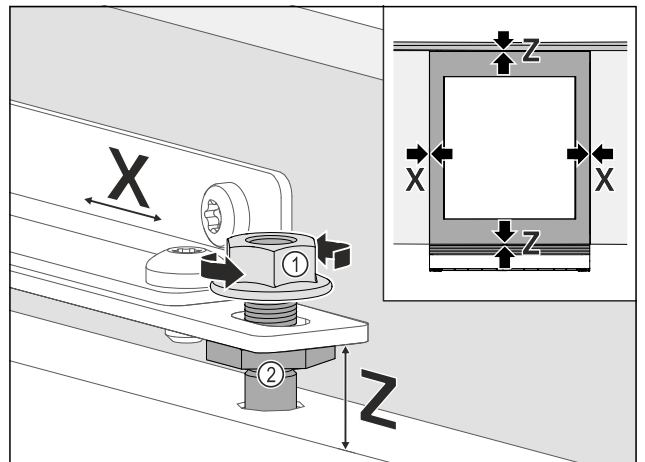

Fig. 77
- ▶ Align the unit door sideways: Loosen lock nut Fig. 77 (1), move unit door in X direction.
- ▶ Tighten the lock nuts Fig. 77 (1).
- ▶ Align the unit door in height Z and in the lateral inclination: Adjust the adjustment bolt Fig. 77 (2).